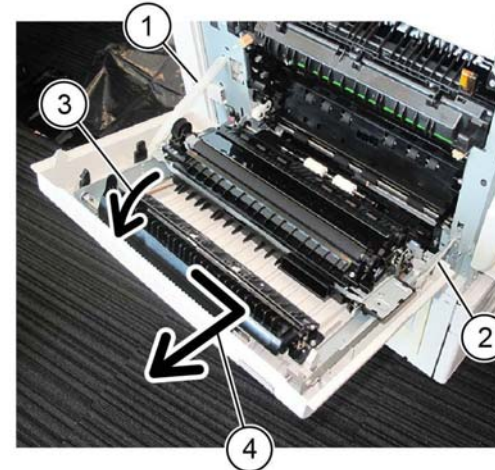

Figure 4 LH cover removal
5. Remove the L/H cover, **Figure 4**:
- b. Rotate by 90 degrees, then disconnect the rear support (1).
- c. Rotate by 90 degrees, then disconnect the front support (2).
- d. Hold the L/H cover (3) open at 90 degrees.
- e. Remove the L/H cover in the direction of the arrow (4).